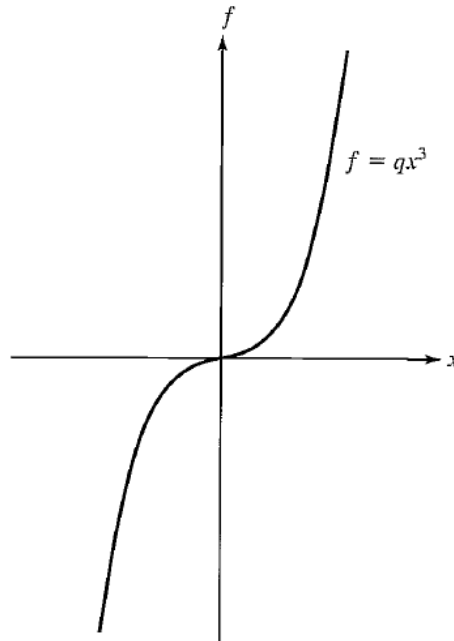

Figure Q4A.
- 4A.** Consider the nonlinear spring characteristic shown in Figure Q4A., Rather than the usual linear spring relationship, $f = kx$, this spring is described by $f = kx^3$. Construct a control law to keep the system critically damped with a stiffness of K_{CL} . **05**